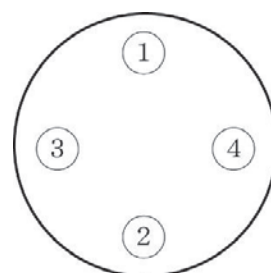

Fig. 4-4 Tightening
(3) Reactor
- B Always keep the tightened part of the main body and lid clean regardless of the presence or absence of the gasket. It should be tightened by gradually increasing the force and following the order shown in Fig. 4-4. Do not tighten one side.